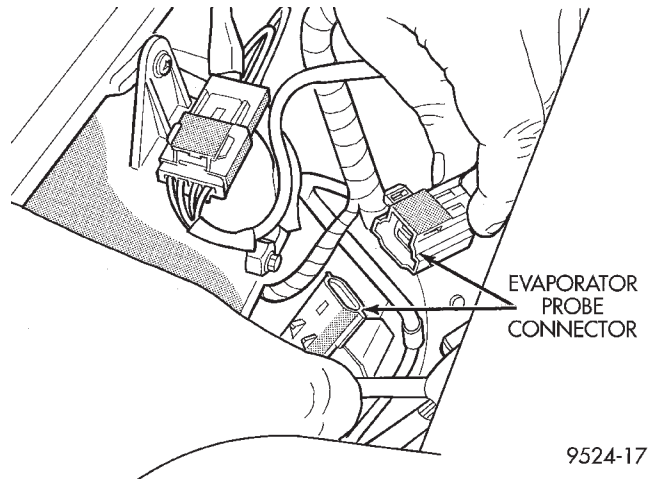

Fig. 24 Evaporator Probe Connector
- (1) Remove the glove box. Refer to Group 8E, Instrument Panel and Systems.
- (2) Disconnect the evaporator probe connector (Fig. 24).